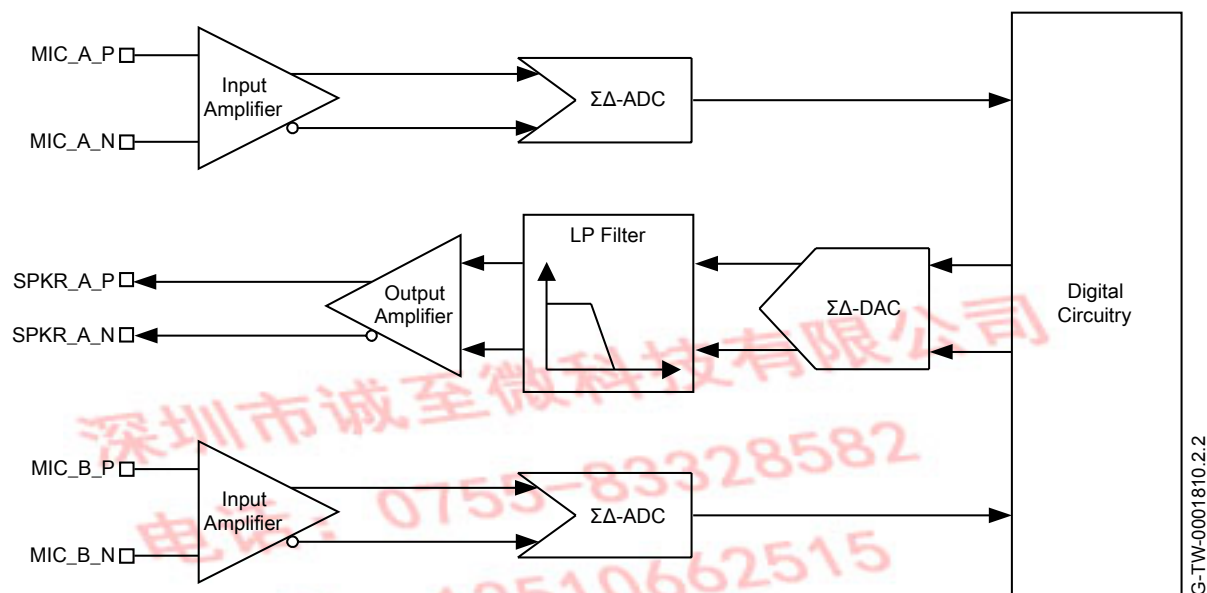

Figure 10.2: Mono Codec Audio Input and Output Stages
- 2 second-order Sigma-Delta converters allowing 2 separate channels that are identical in functionality, as Figure 10.2 shows.